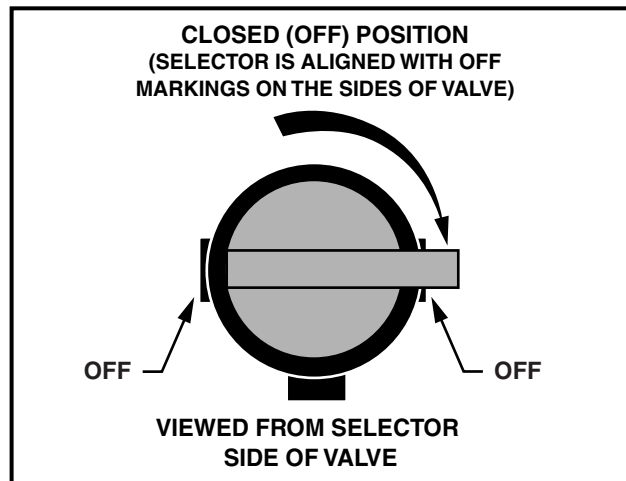

Figure 10 Fuel Shut-off Valve – Closed Position
2. Turn the key switch to OFF and place the Forward/Reverse handle in the NEUTRAL position. Remove the key, and turn the fuel shut-off valve to closed (OFF) position when the vehicle is not in use (**Figure 10, Page 20**). See also **Figure 16, Page 27**.
- Turn fuel shut-off valve to closed (OFF) position (Figure 10).
- 3.1. Place the Forward/Reverse handle in the NEUTRAL position. Turn the fuel shut-off valve to the closed (OFF) position (**Figure 10**) and run the engine until fuel remaining in the carburetor and fuel lines is depleted and the engine stalls.